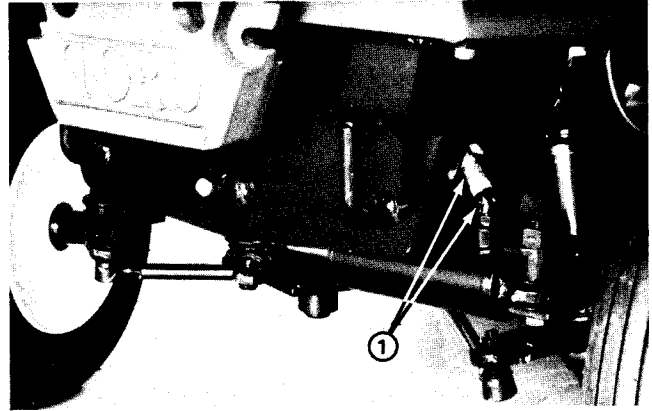

Figure 9
4. Disconnect the hydraulic hose from the fitting on the barrel end of the cylinder (Fig. 9). Put a plug in the end of the hose to prevent contamination.